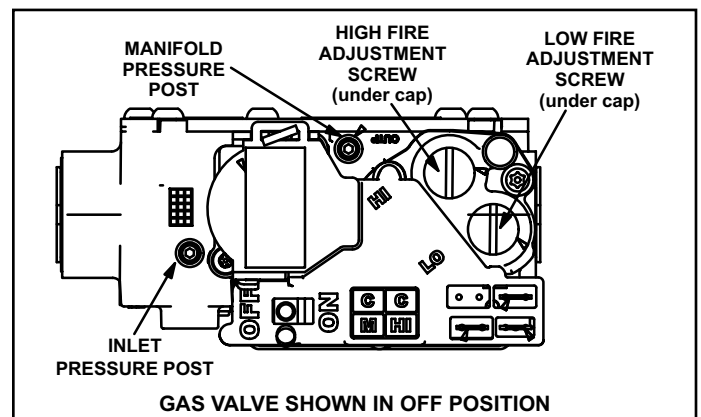
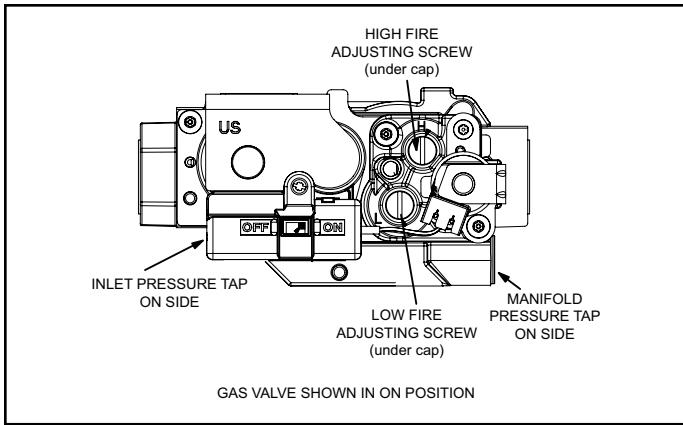

Figure 1. White Rodgers Gas Valve
Figure 2. Resideo Two-Stage Gas Valve
2. Remove the access panel. Move the automatic gas valve switch to OFF. See Figure 1 or Figure 2.
6. Move the switch on the gas valve to OFF. Do not force the switch. See Figure 1 or Figure 2.
7. Wait five (5) minutes for any gas to clear out. If you then smell gas, STOP! Immediately call your gas supplier from a neighbor's phone. Follow the gas supplier's instructions. If you do not smell gas, go to the next step.
An inlet pressure post located on the gas valve provides access to the supply pressure. See Figure 1 or Figure 2. Back out the 3/32 hex screw one turn, connect a piece of 5/16 tubing and connect to a manometer to measure supply pressure. Check the unit on high fire. On multiple unit installations, check the unit separately and with the
A manifold pressure post located on the gas valve provides access to the manifold pressure. See Figure 1 or Figure 2. Back out the 3/32 hex screw one turn, connect a piece of 5/16 tubing and connect to a manometer to measure manifold pressure. To correctly measure manifold pressure, the differential pressure between the positive gas manifold and the negative burner box must be considered. Furnace should operate at least 5 minutes before checking manifold pressure.
4. After allowing unit to stabilize for 5 minutes, record low fire manifold pressure and compare to value given in Table 1. If necessary, make adjustment. Figure 1 shows location of low fire adjustment screw.
5. Repeat on high fire and compare to value given in Table 1. If necessary, make adjustment. Figure 1 and Figure 2 show location of high fire adjustment screw.
A manifold pressure post located on the gas valve provides access to the manifold pressure. See Figure 1 or Figure 2. Back out the 3/32 hex screw one turn, connect a piece of 5/16 tubing and connect to a manometer to measure manifold pressure.
1. Connect test gauge to manifold pressure post (Figure 1) on gas valve.